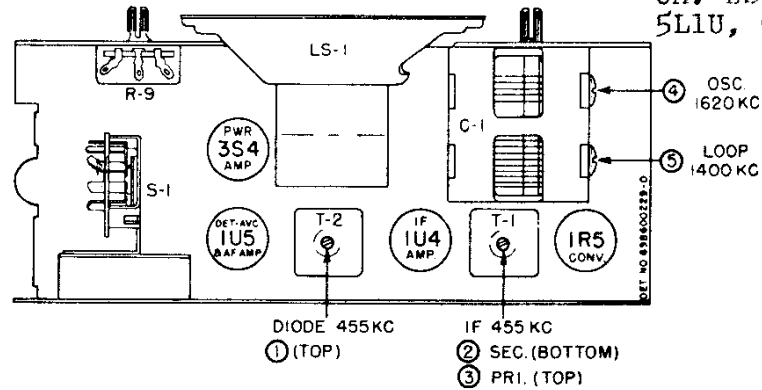

FIGURE 2. TUBE & TRIMMER LOCATIONS
7. See Figure 2. for adjustment locations and the following chart for procedure.